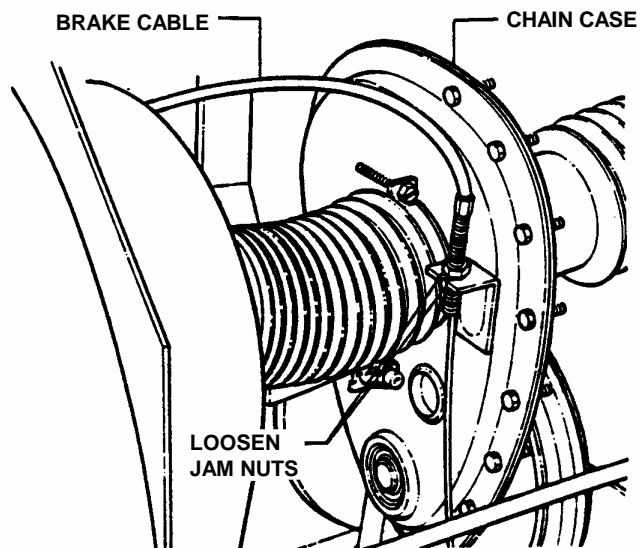

FIGURE 4.10
6. If measurement is not $\frac{3}{4}$ ", loosen the two jam-nuts (shown in Figure 4.10) holding the clutch/brake cable to the chain case bracket.
5. Move transmission shift lever to the neutral (N) position.
6. Rotate clutch yoke (clutch yoke shown in Figure 4.10) out with your hand and work belt between drive disc and rubber driven disc.